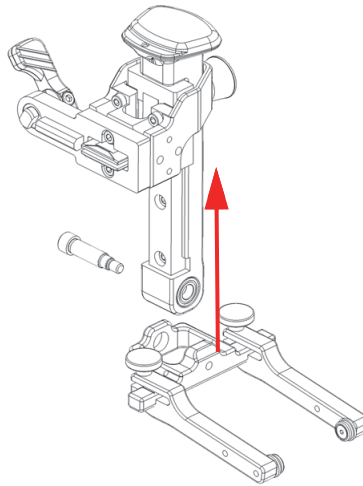

Figure 2-23 Sliding the SLA rail out the yoke pivoting beam
5. Slide the SLA rail out of the yoke pivoting beam (Figure 2-23 on page 53).